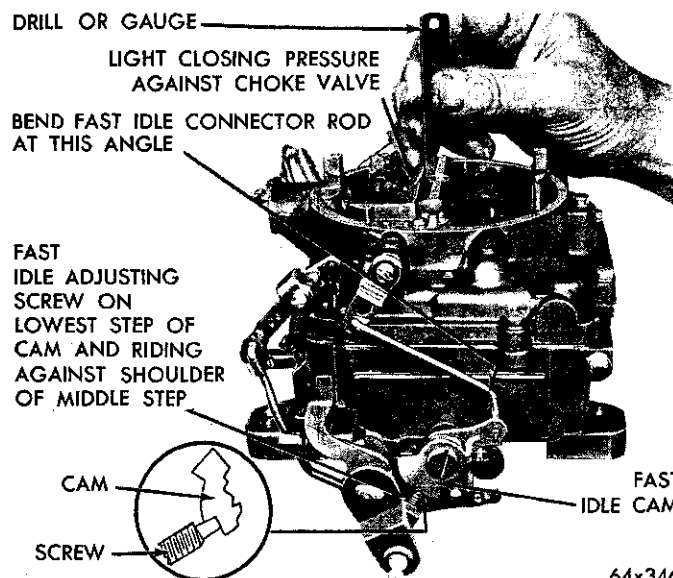

Fig. 13—Fast Idle Cam Position Adjustment
(1) Open the throttle valves far enough to allow the fast idle speed adjusting screw to clear the fast idle cam.
(2) Insert a  $\frac{5}{32}$  inch drill or gauge between the choke valve and the air horn wall, as shown in Figure 13.
(3) Close the throttle valves until the fast idle speed adjusting screw contacts the fast idle cam.
(4) Adjust the fast idle connector rod, using Tool T109-213 by bending at the angle until the fast idle speed adjusting screw lightly contacts the **middle step** on the fast idle cam, but slides onto the **bottom** step of the cam. The fast idle speed adjusting screw must